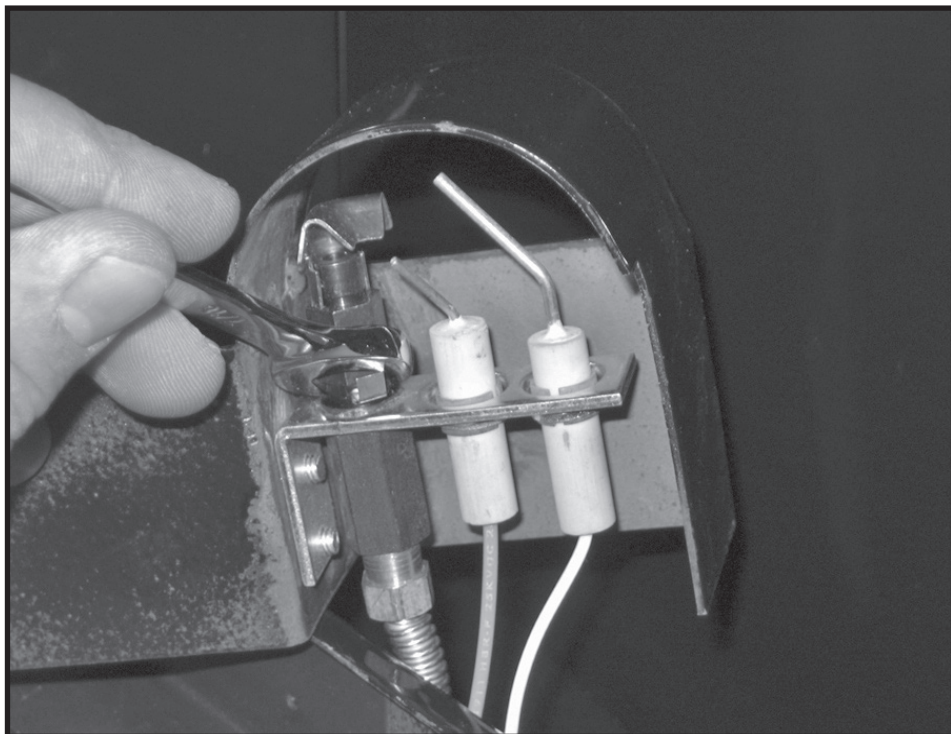

Figure 25: Loosening the pilot head.
5. With a 7/16" wrench, loosen the pilot head on the pilot assembly (Figure 25)